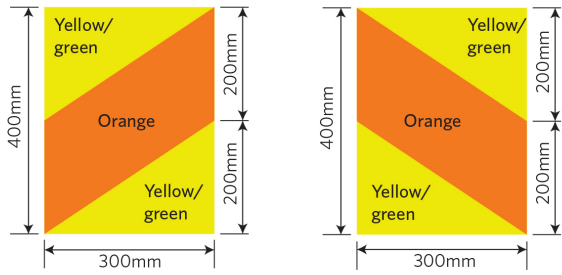

**Figure 2-2-2. Hazard panel details**
- must be of at least the minimum dimensions and the colours specified in Figure 2-2-2.